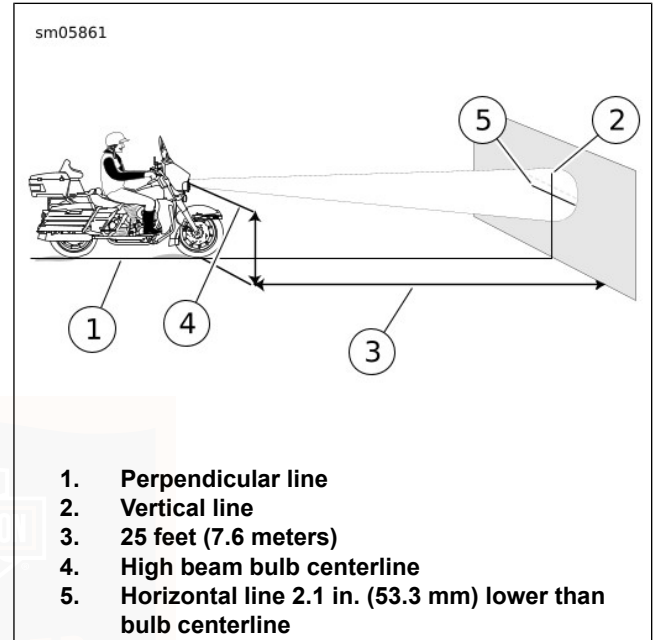

Figure 62. Check Headlamp Alignment
See Figure 62. To aid in properly placing the motorcycle, a perpendicular line (1) can be drawn on the floor. For best results, choose an area with minimum light.
3. See Figure 62. Draw a vertical line (2) on the wall.
7. See Figure 62. Verify headlamp alignment. Turn the ignition switch to IGNITION and set the headlamp switch to HIGH beam.
2. Adjust the light beam until it is centered as shown in Figure 62.